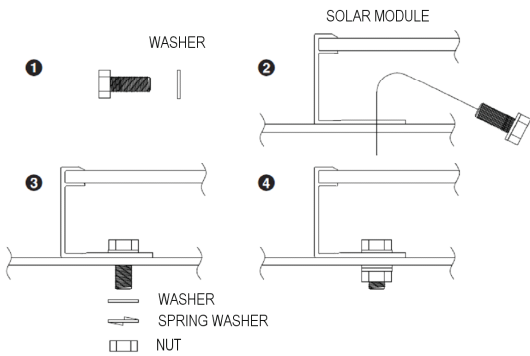

Figure 6
#### Mounting Using Frame Bolt Holes (Figures 6)
The modules may be fastened to a support utilizing the four 9 mm diameter holes in the bottom of the frame and according to Figure 6. The module should be fastened with four (4) M8 (5/16") bolts. Recommended torque value is 12.5 Nm. This mounting method is designed to a static load of 2400 Pa (50.1 lbs/ft²). For your reference, please use the washer specified as below for the minimum requirement: